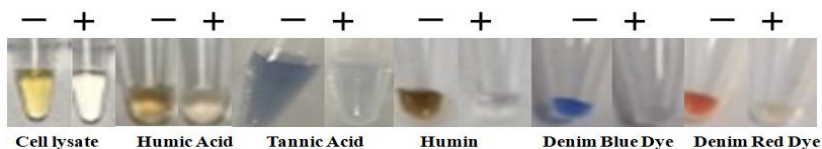

Fig.1 PCR inhibitor removal
**BcMag™ One-Step Mouse Tail DNA Purification Kit** allows rapid, column-free extraction of genomic DNA from mouse tail, ear, ear punch, or other animal tissue. The kit uses our unique proprietary magnetic beads and buffers to efficiently lyse cells and remove all impurities simultaneously in an aqueous buffer, leaving the DNA untouched. The procedure employs mild lysis conditions, avoiding harsh conditions such as alkaline lysis and toxic chemicals for lysing cells to maintain DNA integrity and the time-consuming cleanup of organic solvent from the sample. Furthermore, the magnetic beads eliminate PCR inhibitors (Fig.1) from samples in a single step without DNA extraction. It increases DNA integrity, boosts nucleic acid yields, and minimizes DNA loss caused by typical DNA purification techniques' time-consuming "bind-wash-elute" procedure. Following sample lysis, the straightforward one-step purification technique enables simultaneous processing of >96 samples and produces pure DNA in less than 30 minutes. Purified genomic DNA has the highest integrity and can be used in various downstream applications such as qPCR.